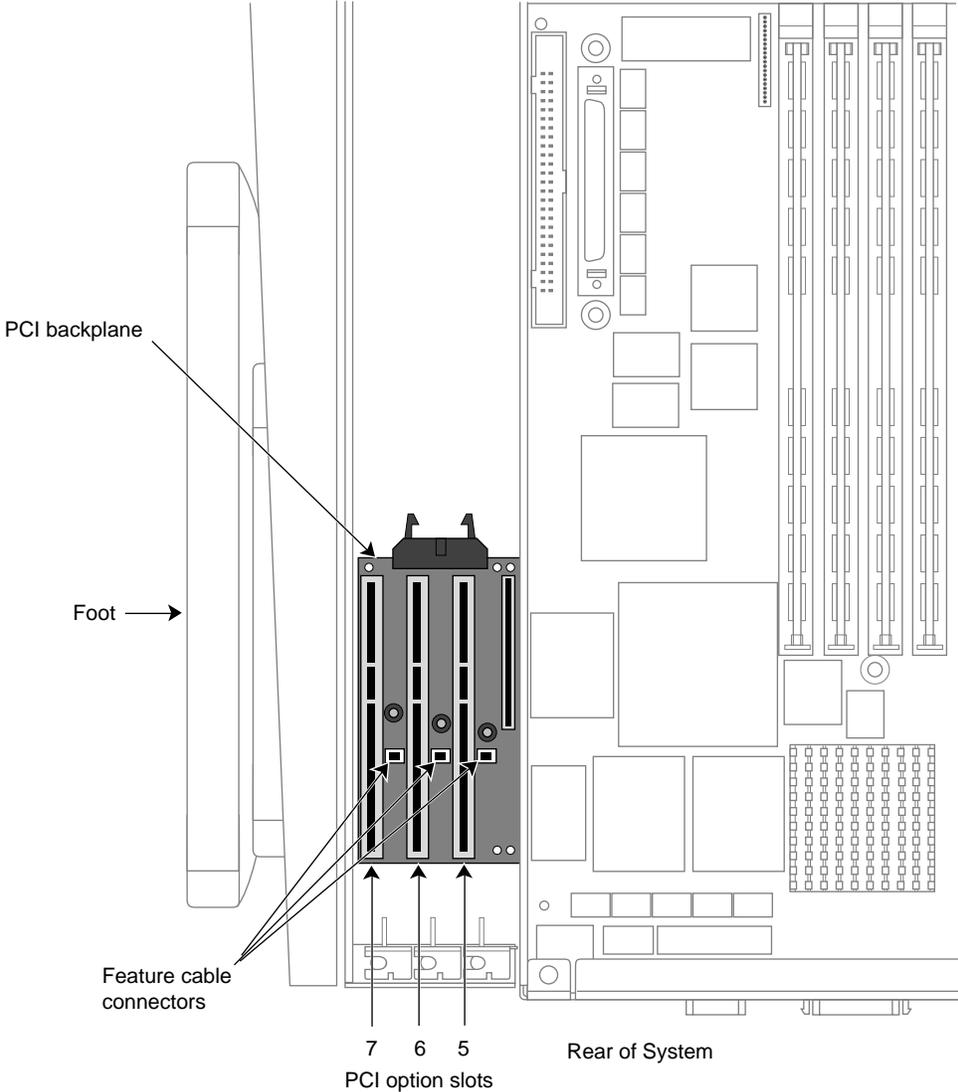

Figure 2-1 Locating the PCI Option Slots
2. Locate an available PCI option slot. See Figure 2-1.